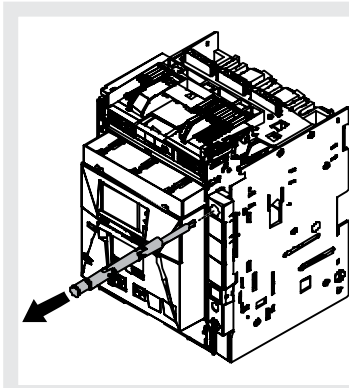

Figure 43
4. Extract the disconnection crank from its housing See Figure 43.